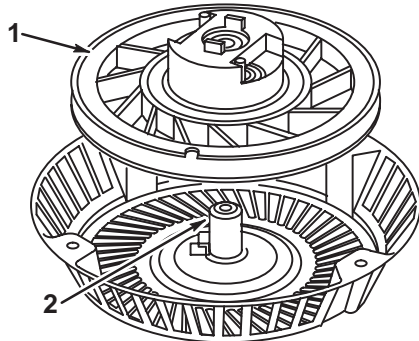

Fig. 76 – Installing Pulley
2. Assemble starter pulley to center pivot post in housing, Fig. 76.